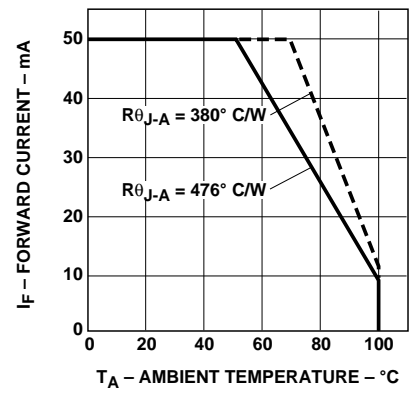

Figure 4. Maximum Forward Current vs. Ambient Temperature.
3. Derate linearly as shown in Figure 4.